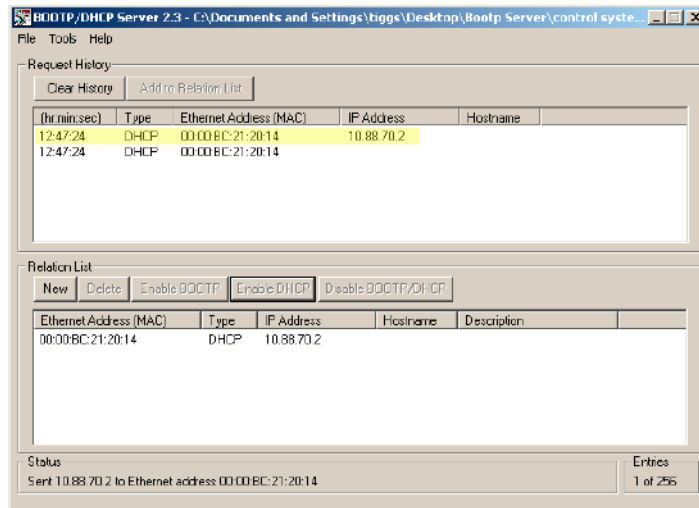

Figure 148. Device Added to the Relation List
3. Enter the IP Address to be assigned to the device and click OK. The device is added to the Relation List, displaying the Ethernet Address (MAC) and corresponding IP Address, Hostname and Description (if applicable), as in Figure 148. When the IP address assignment is made, the address displays in